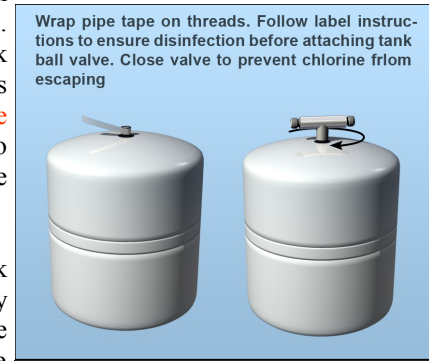

Figure 10. Storage tank preparation
inlet; then place three (3) drops of regular household chlorine bleach into the opening. Attach the tank ball valve as shown in figure 10. Close valve to prevent chlorine from escaping.